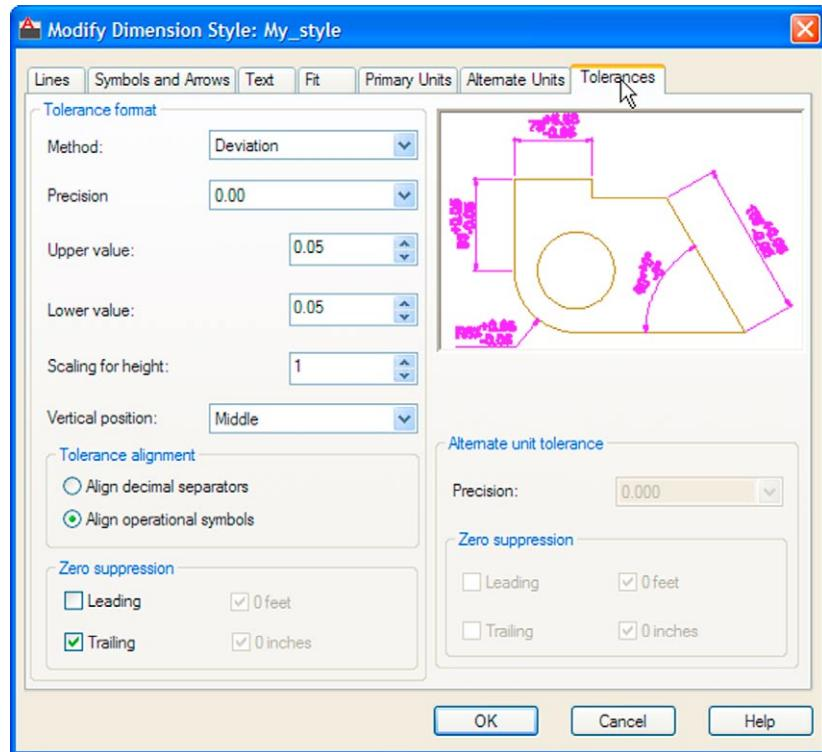
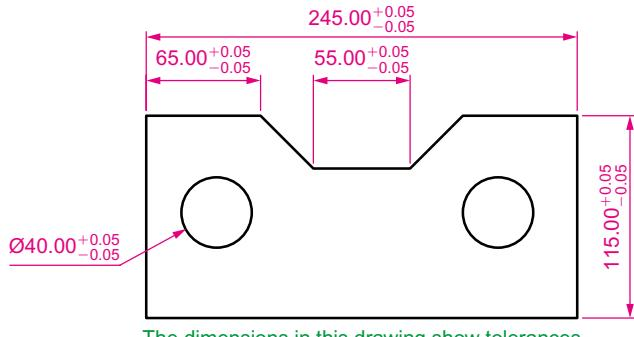

Fig. 6.17 The **Tolerances** sub-dialog of the **Modify Dimension Style** dialog
Fig. 6.19 Example – tolerances
2. Click the **Modify...** button of the dialog, followed by a *left-click* on the **Primary Units** tab and in the resulting sub-dialog make settings as shown in Fig. 6.17. Note the changes in the preview box of the dialog.
### Example – tolerances (Fig. 6.19)
3. Dimension the drawing using either tools from the **Dimension** panel or by *entering* abbreviations at the command line. Because tolerances have been set in the **Dimension Style Manager** dialog (Fig. 6.17), the tolerated dimensions will automatically be added to the drawing (Fig. 6.19).
### Example – Single Line Text (Fig. 6.19)
1. Open the drawing from the example on tolerances – Fig. 6.19.
The result is given in Fig. 6.19.